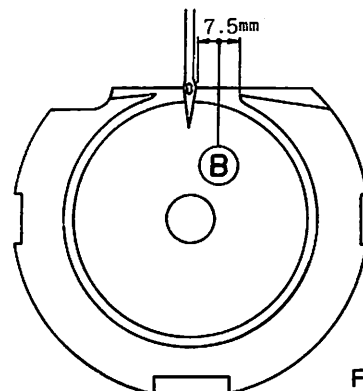

Fig 28
C. The shuttle race must be positioned in relation to the needle, as shown in Fig. 28, so that there is a clearance ② of 7.5 mm (19/64") between them. If the clearance ② is smaller, the needle thread will tend to snag.